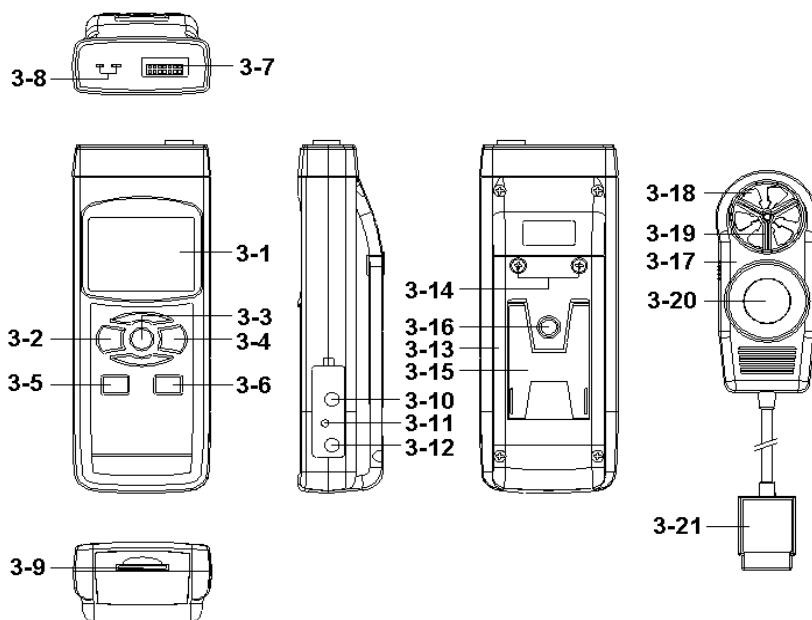

Fig. 1
(3-2, Fig. 1) momentarily.
** Pressing the " Power Button " (3-2, Fig. 1)
Pressing the " Function Button " (3-3, Fig. 1)
just release the " Function Button " (3-3, Fig. 1), the
- 2) Plug the " Probe Plug " (3-21, Fig. 1) into the " Probe Input Socket " (3-7, Fig. 1).
Power on the meter by pressing the " Power Button " (3-2, Fig. 1) once,
- 3) Hold the Probe by hand and let the " Anemometer vane " (3-18, Fig. 1) face against the measuring air flow source, then the Display (3-1, Fig. 1) will show air velocity directly. At the same time, the lower Display will show the air temperature value.
Plug the " Probe Plug " (3-21, Fig. 1) into the " Probe Input Socket " (3-7, Fig. 1).
- 2) Power on the meter by pressing the " Power Button " (3-2, Fig. 1), the LCD shows the unit " %RH " & " °C or °F " at the same time and measured value will show on the display (upper display is Humidity value, the lower display is the temperature value) .
- 2) Plug the Thermocouple Temp. Probe (Type K Temp. probe pr Type J Temp. probe, optional) into " Type K/J Probe Input Socket " (3-8, Fig. 1)
- 3) Hold the Probe by hand and let the " Light sensor " (3-20, Fig. 1) face against the measurement light source, the Display (3-1, Fig. 1) will show the light measurement value.
During the Light measurement, blank the Light Sensor (3-20, Fig. 1) completely, if the Display is not show zero value, press the " Logger Button " (3-6, Fig. 1) > 3 seconds, Display will show the zero value.
Plug the " Sound adapter plug " into the " Probe Input Socket " (3-7, Fig. 1).
- 3) Power on the meter by pressing the " Power Button " (3-2, Fig. 1). The meter's Display will show the text " Sound " once a while, then return to normal screen (Display unit is dB). Now the whole system (meter + sound adapter) are ready for the sound level measurement. The display will show the measuring sound value with unit " dB ".
During the measurement, press the " Hold Button " (3-3, Fig. 1) once will hold the measured value & the LCD will display a " HOLD " symbol.
- 1) The data record function records the maximum and minimum readings. Press the " REC Button " (3-4, Fig. 1) once to start the Data Record function and there will be a " REC " symbol on the display.
- a) Press the " REC Button " (3-4, Fig. 1) once, the " REC MAX " symbol along with the maximum value will appear on the display.
If intend to delete the maximum value, just press the " Hold Button " (3-3, Fig. 1) once, then the display will show the " REC " symbol only & execute the memory function continuously.
- b) Press the " REC Button " (3-4, Fig. 1) again, the " REC MIN " symbol along with the minimum value will appear on the display.
If intend to delete the minimum value, just press the " Hold Button " (3-3, Fig. 1) once, then the display will show the " REC. " symbol only & execute the memory function continuously.